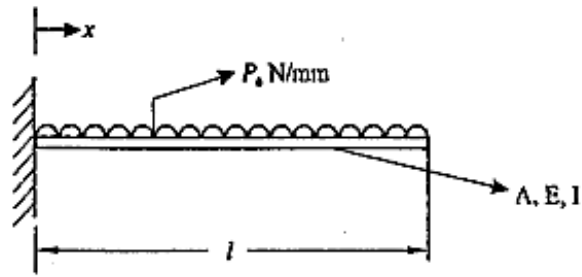

Fig. 3
- c) Using Galerkin's method, find the expression for displacement of cantilever beam shown in fig.3 08